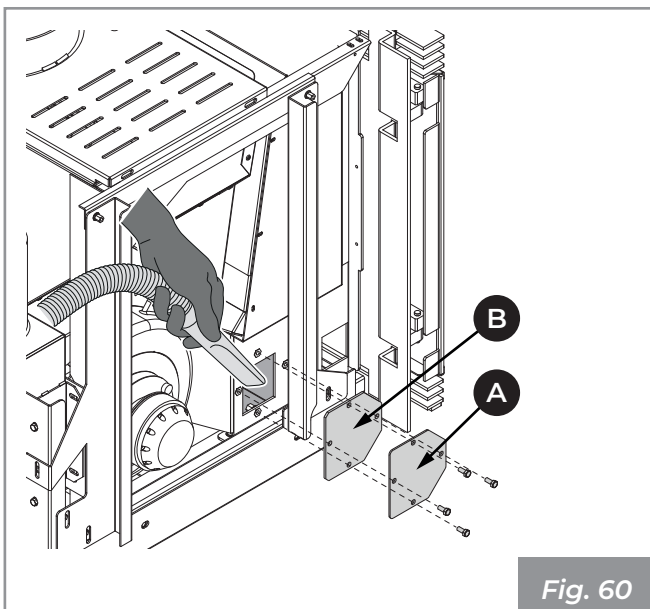

Fig. 60
- Clean the entire area indicated in (Fig. 60).